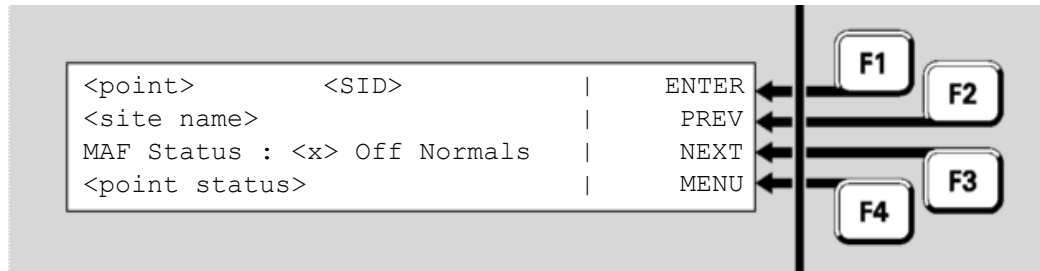

Fig 9-8 – MAF Status Display
247.SID.1 to display the MAF Status – See Fig 9-8
The format of the MAF Status display is shown in Figure 9-8.
- **MENU ← F4** to display the default menu (as per Figure 9.8).